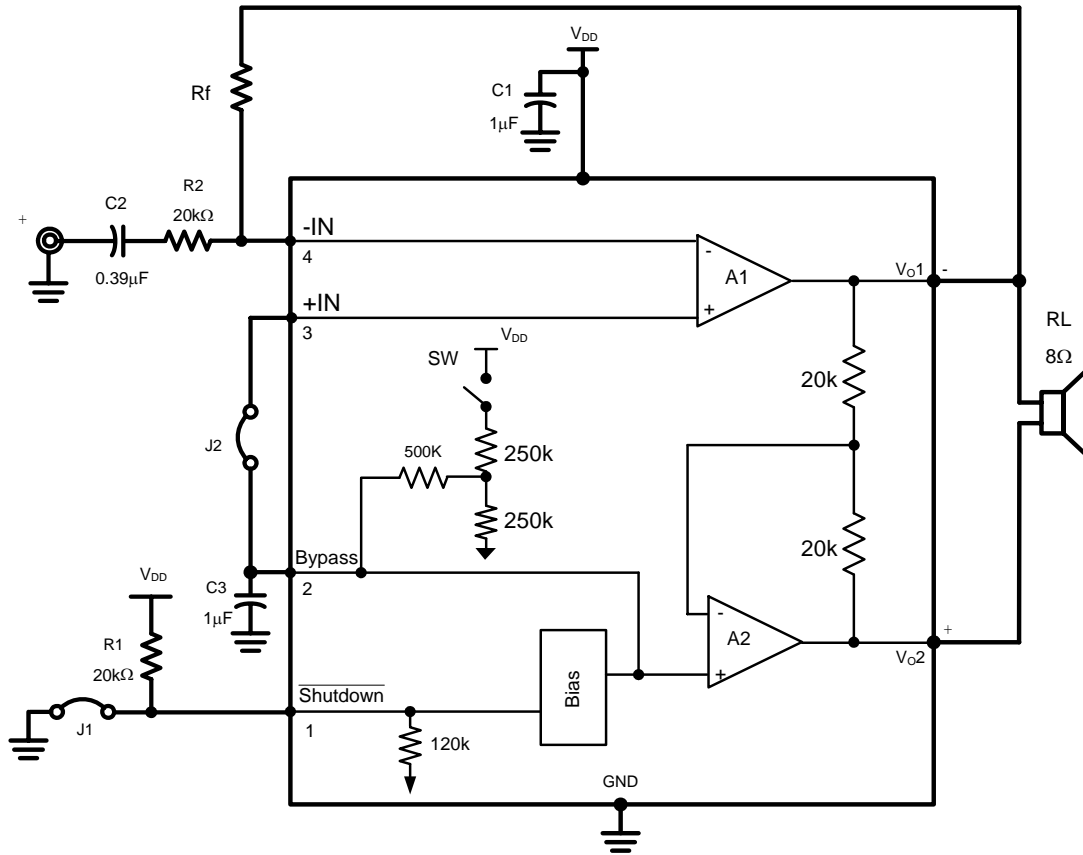

FIGURE 1. Typical Audio Amplifier Application Circuit
- PSRR at 217Hz, VDD = 5V (Fig. 1) 60dB(typ.)
The following specifications apply for the circuit shown in Figure 1 unless otherwise specified. Limits apply for $T_A = 25^\circ C$.
Note 10: PSRR is a function of system gain. Specifications apply to the circuit in Figure 1 where $A_v = 2$. Higher system gains will reduce PSRR value by the amount of gain increase. A system gain of 10 represents a gain increase of 14dB. PSRR will be reduced by 14dB and applies to all operating voltages.
External Components Description (Figure 1)
As shown in *Figure 1*, the EMA1001 has two operational amplifiers internally, A1 and A2, allowing for a few different amplifier configurations. A1's gain is externally configurable, while A2 is internally fixed in a unity-gain, inverting configuration. The closed-loop gain of A1 is set by selecting the ratio of R_f to R_2 , while A2's gain is fixed by the two internal $20k\Omega$ resistors. *Figure 1* shows that the output of A1 serves as the input to A2, which results in both amplifiers producing signals identical in magnitude, but out of phase by 180° . Hence, the differential gain for the IC is